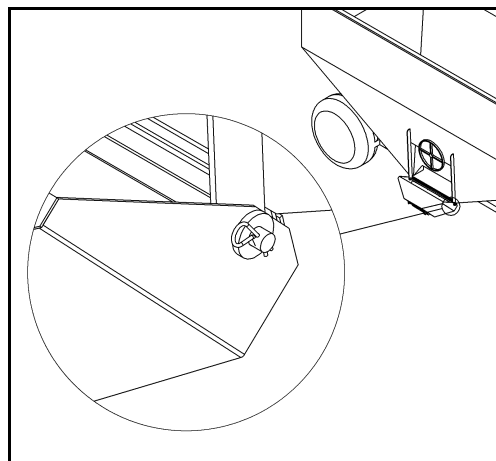

Figure 3.3
- Secure pivot rod on both ends using hair pins provided (Figure 3.3).